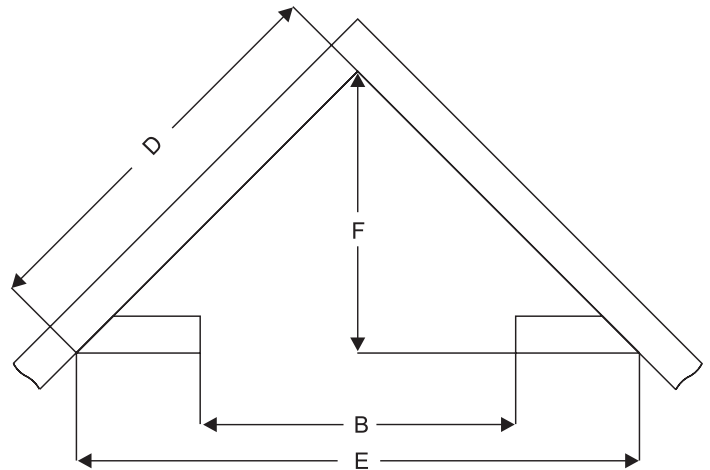

Figure 41 - Rough Opening for Installing in Corner
- Use dimensions shown in **Figure 41** for corner rough opening. Be sure to provide gas line and electrical power for fireplace assembly.